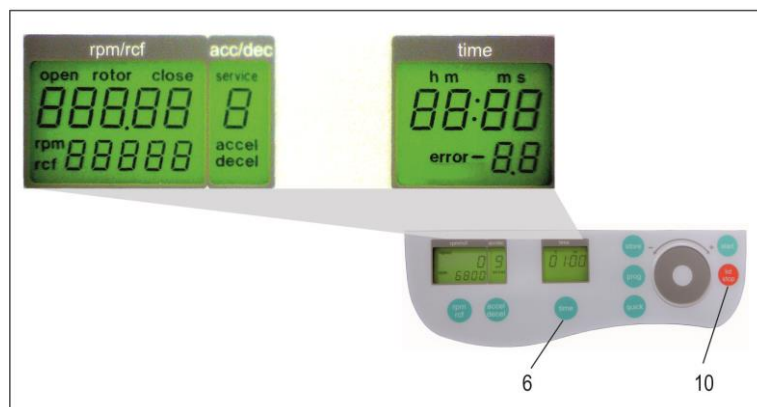

Figure 5
Open the centrifuge lid and shut off the main switch. Now switch on again the main switch. For approximately 3 seconds "SIEVA" will be shown in the display. Press during this time the keys "time" (6) and "lid" (10) simultaneously. As a result, a display test is administered for approx. 3 seconds. All possible indications will appear at the same time (see Figure 5). The LED light is flashing alternately with green and red color.